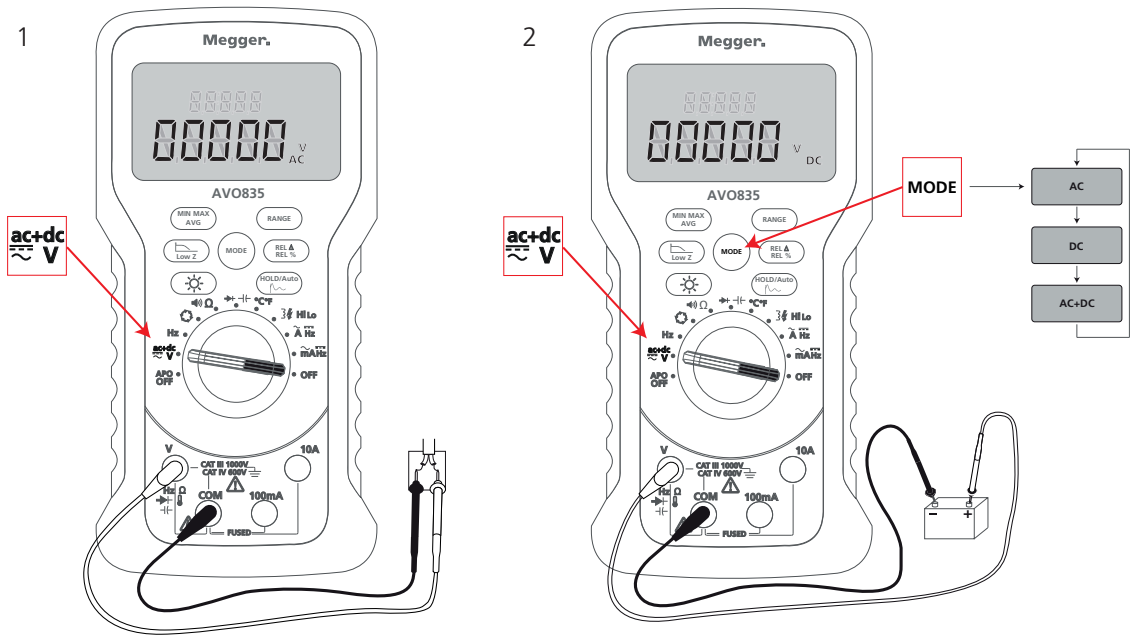

Fig 1: Voltage Measurement Set-up
- Set-up the instrument as shown in Fig 1.